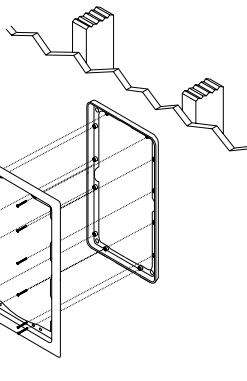

Figure 17
- Attach the frame to the bracket by screwing the frame to the bracket using the supplied screws. Do not overtighten the screws, this will distort the frame and the grilles will not fit (this is not permanent, just loosen the screws and the grille will pop in). The screws should pull the frame and bracket together (sandwiching the drywall) so that the frame is absolutely flush with the wall surface. There should be no gaps between the wall and the frame (See Figure 17).